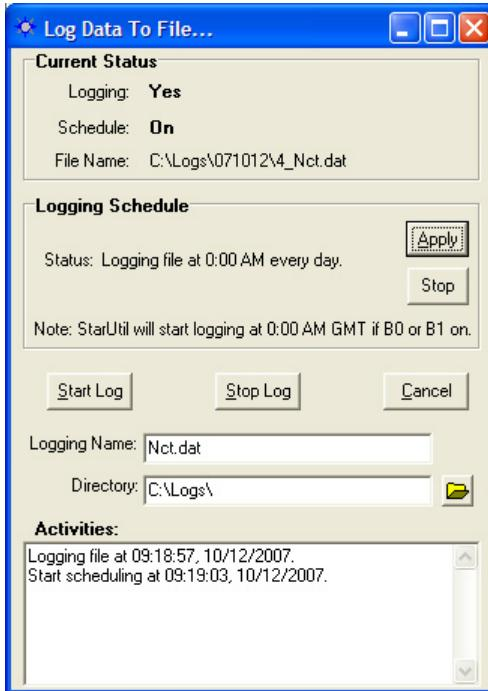

Figure 104: NCT Binary Messages Data Logging Window
-  Click the  icon on the toolbar to log data to a file. The data logging window opens (see Figure 104). The *Current Status* area of the window indicates: if logging is enabled, if the scheduler [24-hour splits] is enabled, and the path to the log file.